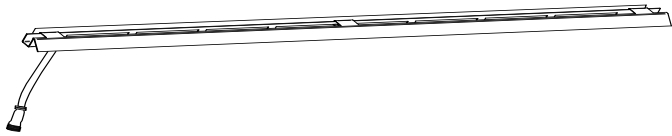

Fig. 7 Shows left LED tray channel
**Step 7:** Remove the LED left channel assembly from the carton (The front of the channel has a shield facing the front with the LED wire hanging on the left side). See Fig. 7.